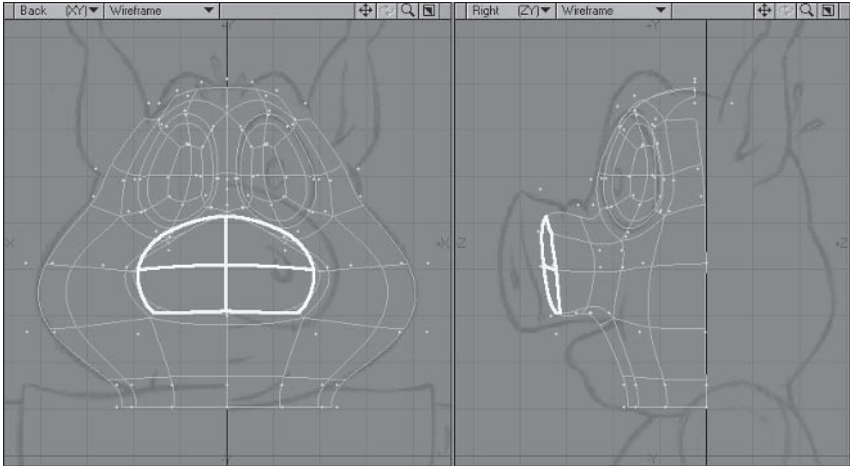

Figure 5.3-12. Creating the base of the nose.
4. **Extender Plus** again, then **Move** the polygons forward to just behind the front edge of the nose in the backdrop. From the Back view **Stretch** up a little both vertically and horizontally. Tweak the points from the Right view so they conform to the edge of the nose, matching Figure 5.3-12.